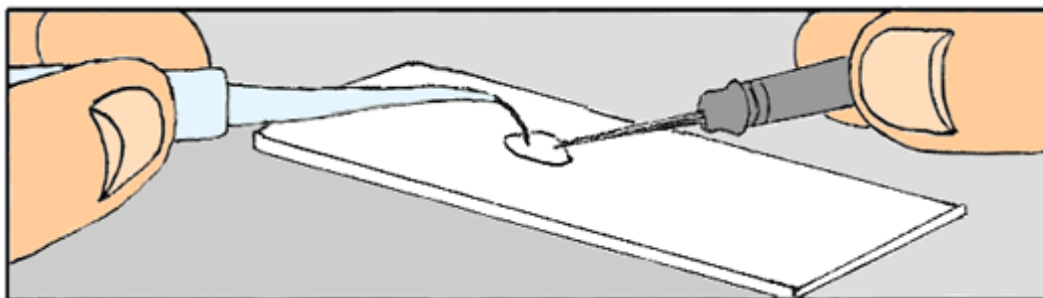

Figure 1: Two Handed Technique
- Two handed technique (Figure 1)